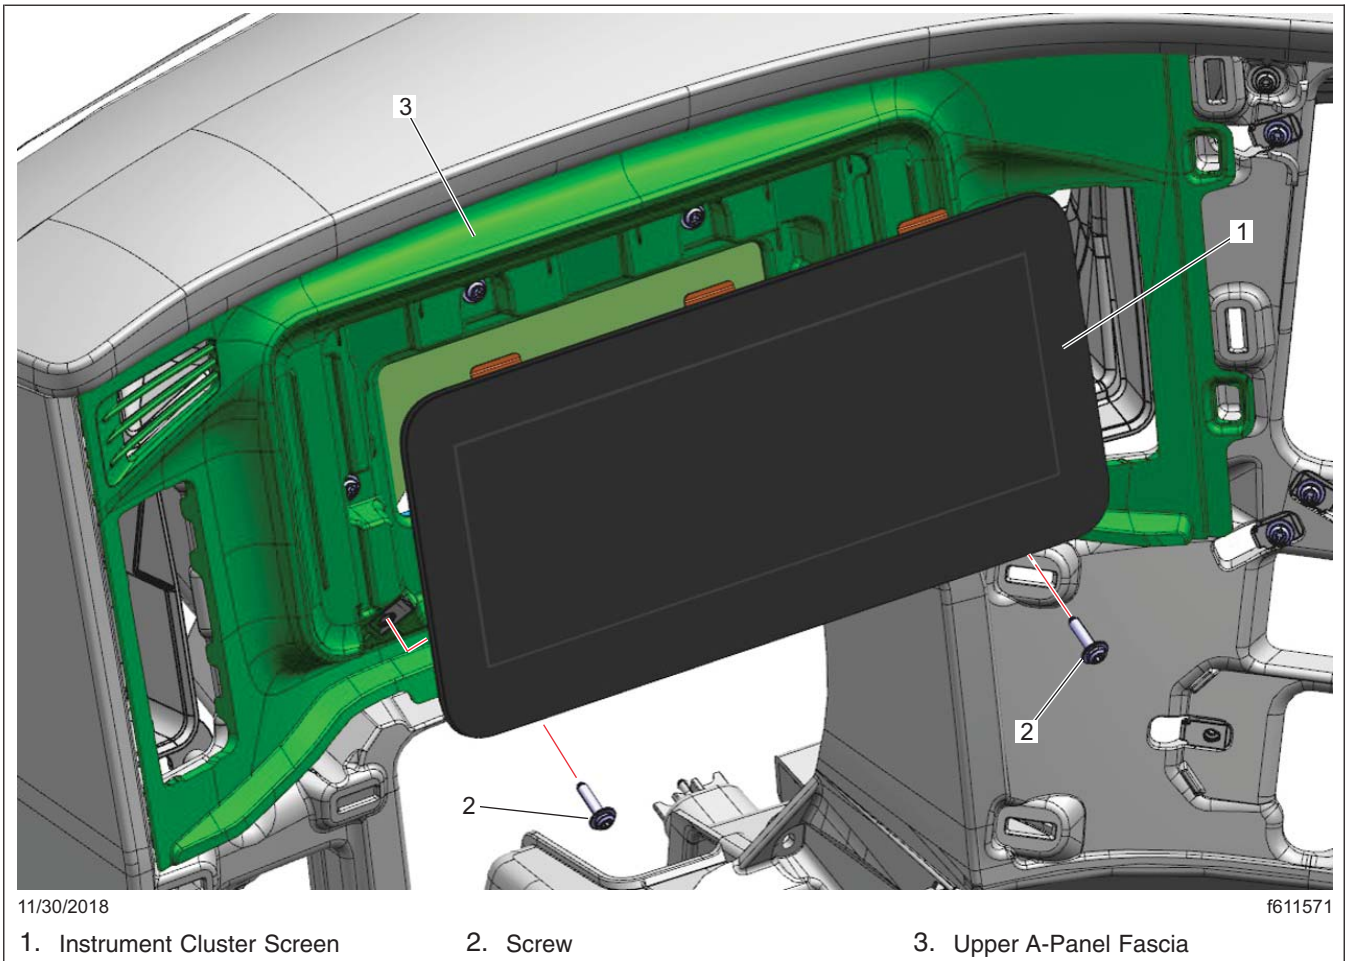

Fig. 1, Instrument Cluster Screen Removal
5.1 Remove the instrument cluster screen. See Fig. 1.